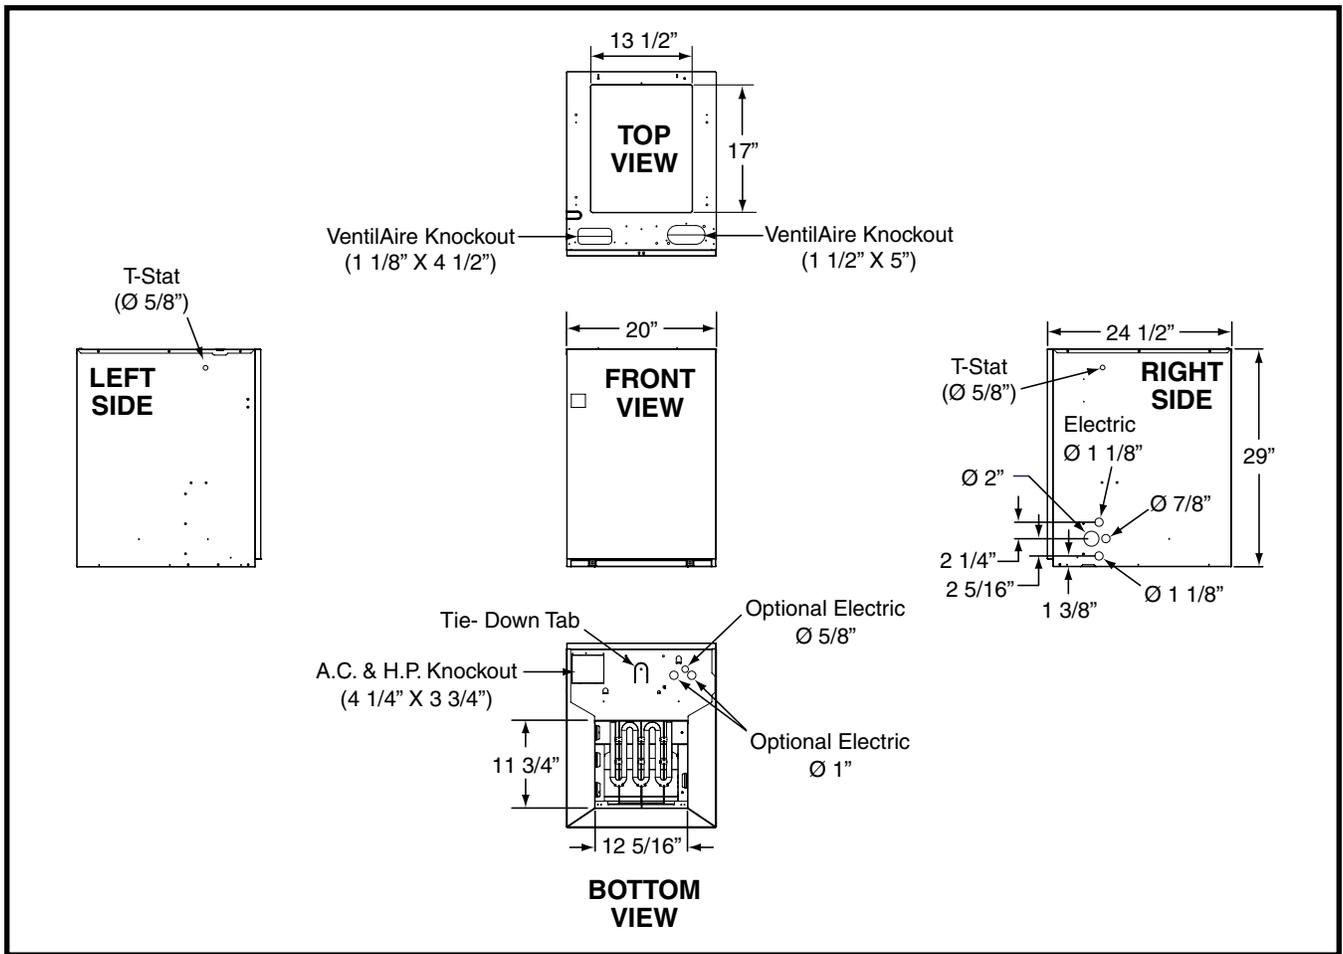

Figure 20. E3 Furnace Physical Dimensions
It is recommended that the line voltage (240 VAC) to the furnace be supplied from a dedicated branch circuit containing the correct fuse or circuit breaker for the furnace. For minimum circuit ampacity and maximum over-current protection, see Table 7 (page 19). See unit wiring diagrams (Figure 23, Figure 24, Figure 25, & Figure 26) for wiring details. Electrical components are shown in Figure 20 (page 17). Supply circuit requirements are listed below:
6. Connect service ground wire(s) to grounding lug(s) provided. One ground is required for each supply circuit used. See Figure 20 (page 17).